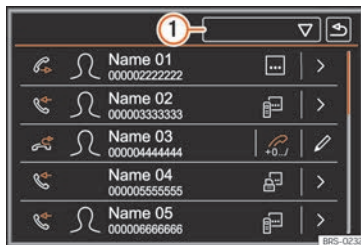

Fig. 229 Calls Menu (list of calls).
- Press function button  **>>> Fig. 229 1.**